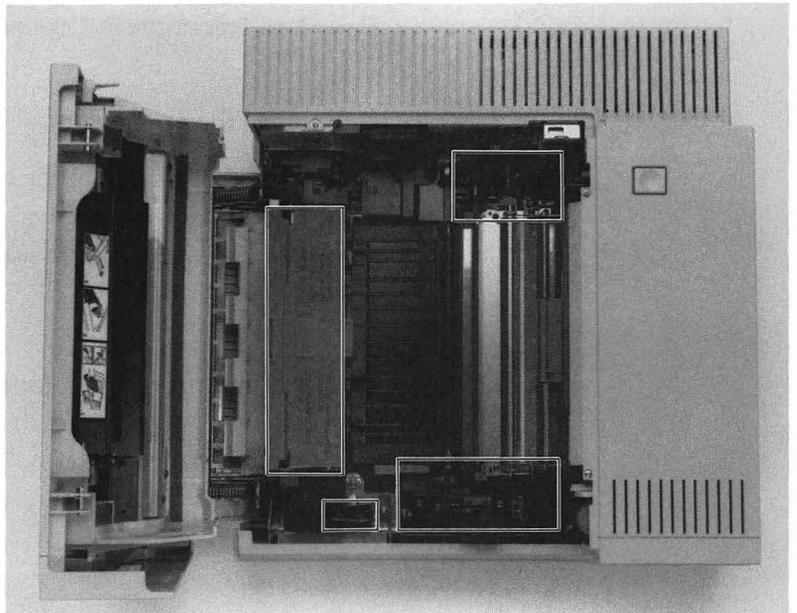

Figure 1-3 The interior of the LaserWriter II
- ▲ **Warning:** Don't touch the exposed electrical contacts or gears shown in the boxed areas of Figure 1-3. ▲